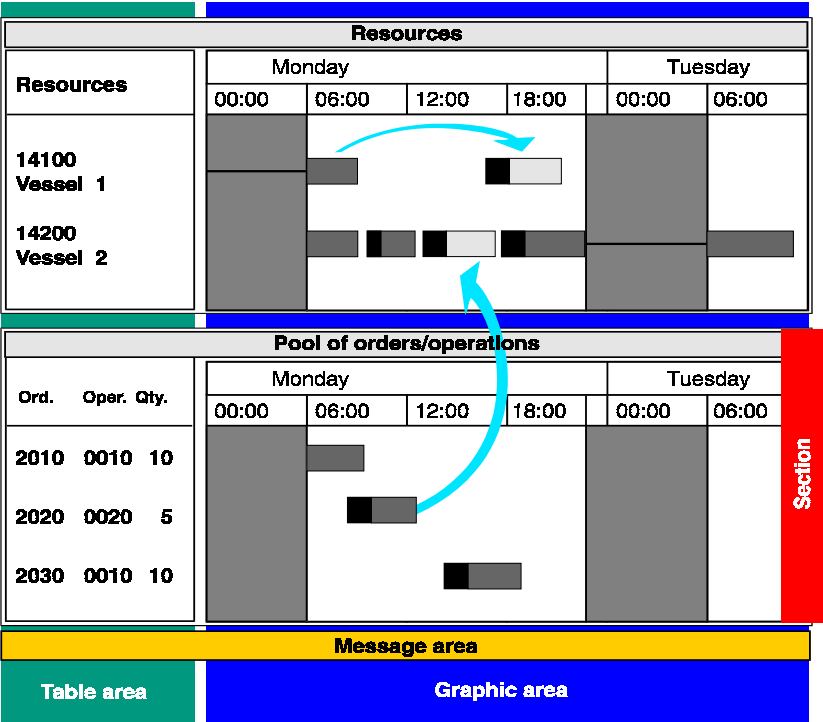

Fig. 7-6: Dispatching, deallocation and rescheduling of planned/process orders
- In the Graphic Planning Table, you can dispatch operations via the bar representing capacity requirements using Drag & Drop (see Fig. 7-6). The requirements can be shifted on the time axis for a resource, so that the desired start or finish date is displayed. The system will check the availability of the capacity over the entire period of the requirements.